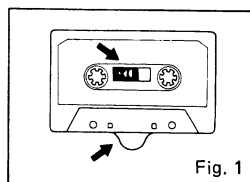

Fig. 1
1. Check to ensure there are no loose layers of tape visible through the cassette centre window or open end (see Fig. 1).